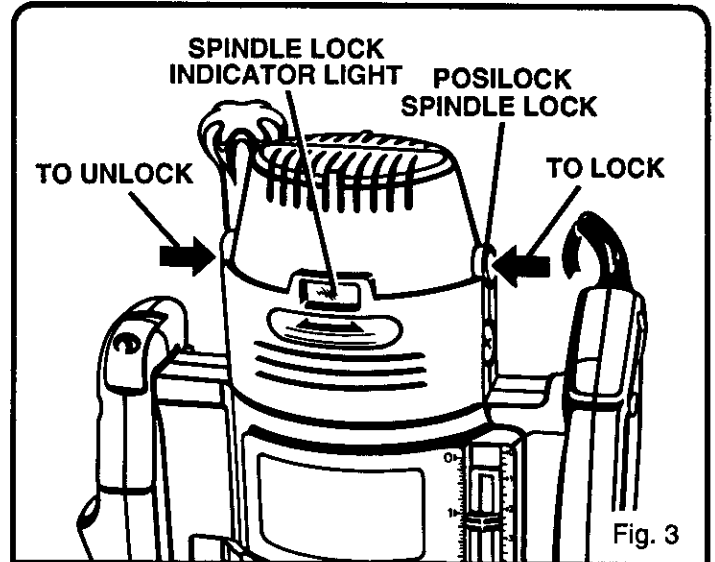

Fig. 3
See Figures 3, 4, and 5.
2. Place the posilock spindle lock into lock position. See Figure 3. **NOTE:** If spindle does not lock, turn collet with wrench, applying pressure at the same time to the spindle lock with your thumb or finger. When lock mechanism engages with notch in spindle, spindle lock will slide into lock position.